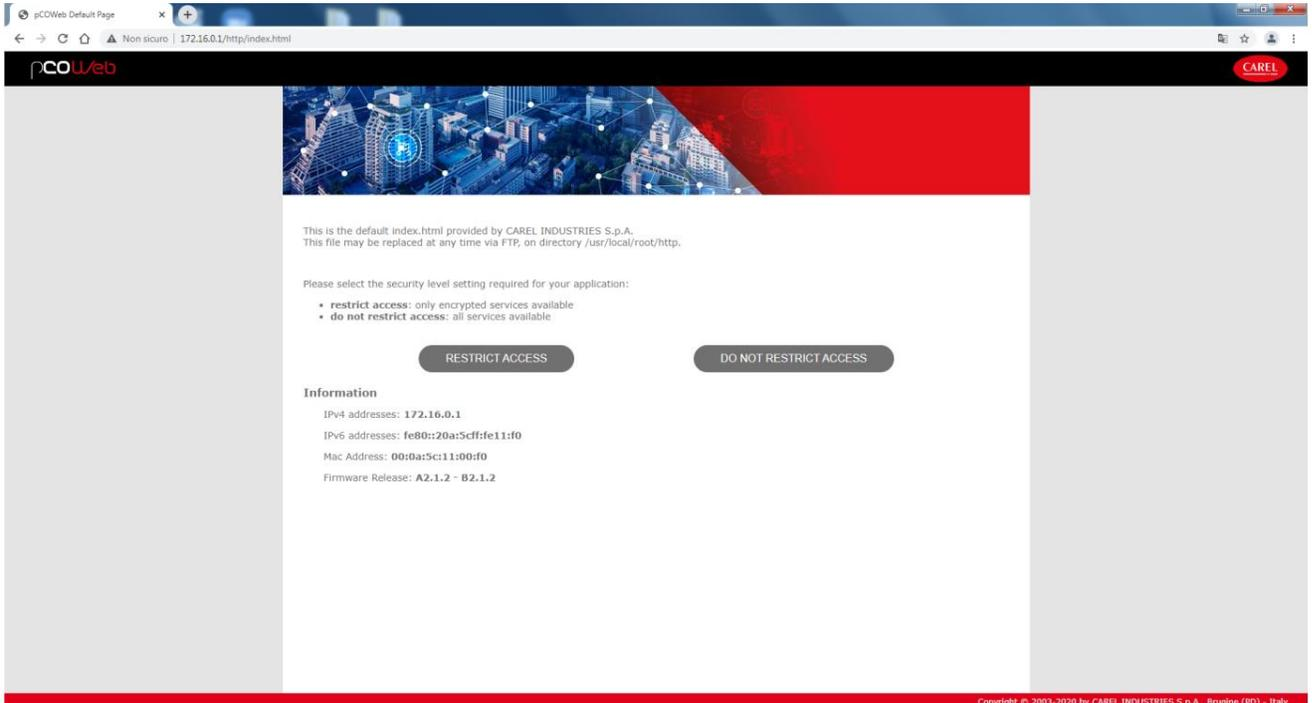

Fig. 1 - Home settings AERBACP
4. Using the PC browser connect to the address <http://172.16.0.1> (Fig.1);